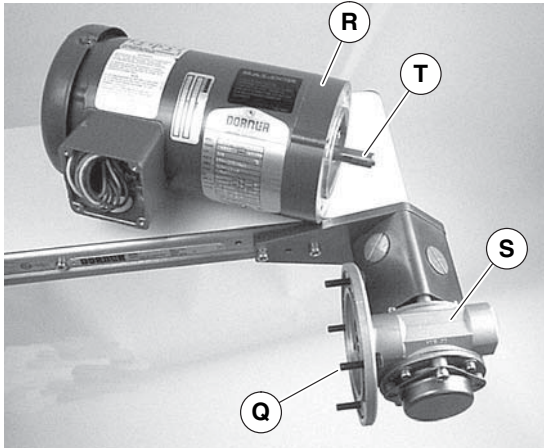

Figure 24
4. Remove four screws (Figure 24, item Q). Detach motor (R) from gear reducer (S). Retain motor output shaft key (T).